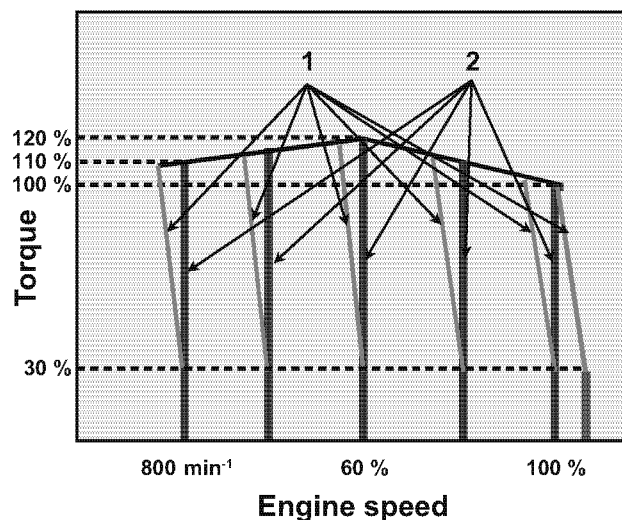

Figure 13-4
Figure 13-4 shows typical engine speed curves that outline the relationship between engine speed and load.
The VM series engines for general use are designed so that the engine speed is reduced by a certain percentage from 30 % load to full rated load. See curves (1) in **Figure 13-4** below. The same percentage droop is maintained at any no-load speed.
The CL series consists of isochronous design engines, the speed of which is kept constant from no load to full rated load. See curves (2) in **Figure 13-4** below.